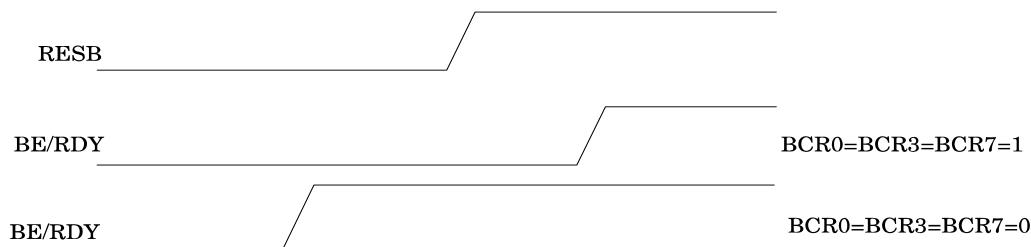

Figure 1-1 BE Timing Relative to RESB Input
- 1.4.6 Table 1-1 and Figure 1-1 (following page) indicate how BCR7 and BE define the W65C265S configuration.